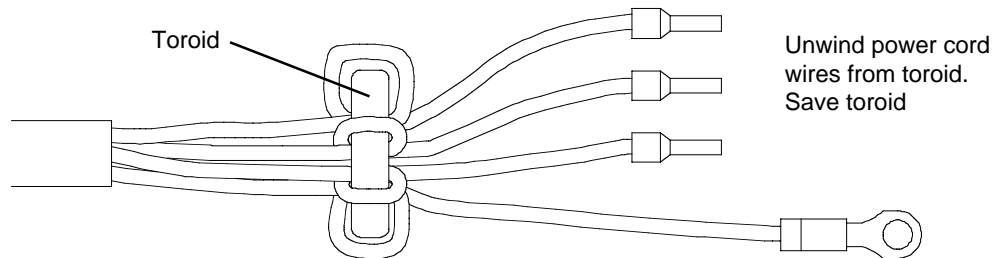

Figure 2-6 Removal of Toroid from Power Cord
3.5. Remove toroid from power cord wires. Save the toroid. See Figure 2-6.